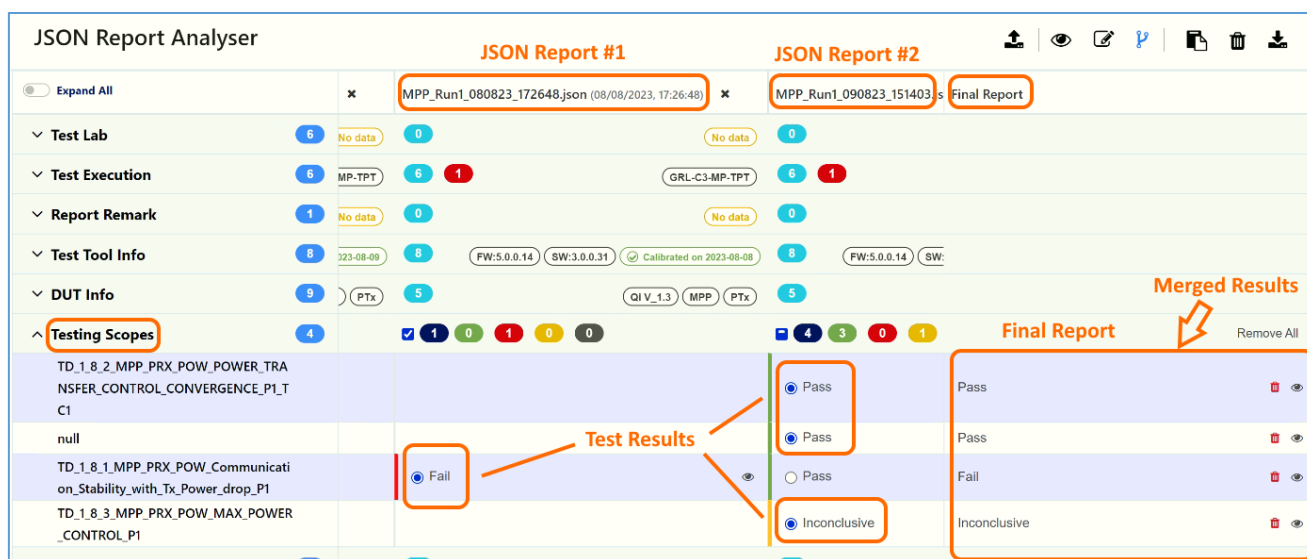

FIGURE 8.120: MERGED TEST RESULTS FROM MULTIPLE JSON REPORT FILES
-  – Click on this icon to view a summary of the JSON report. An example is as shown in Figure 8.120 below which displays the number of test cases with their respective test run results for each JSON report.
2. Then click on the Testing Scopes data field and select the test results from JSON Report #1 and JSON Report #2 as indicated in the Figure 8.120 example below. The selected test results will be reflected under “Final Report” as merged results.